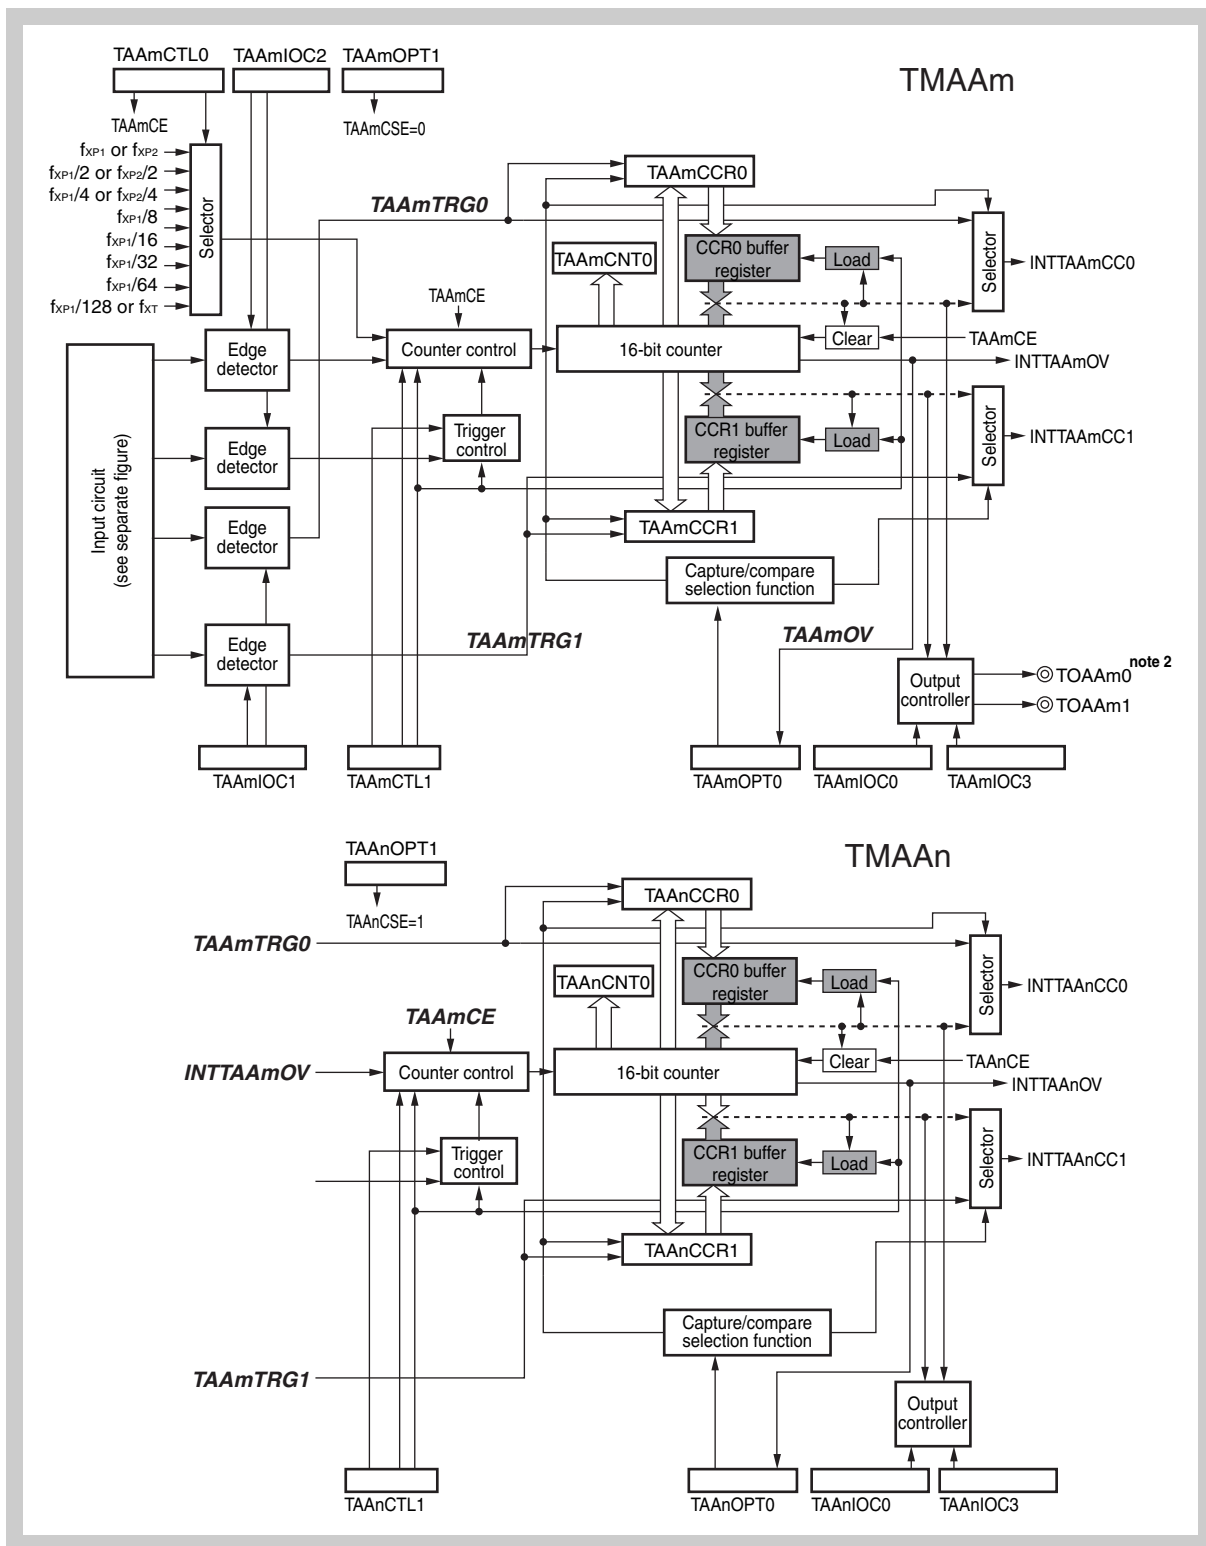

Figure 11-36 Block Diagram of TAAm and TAAn in 32-bit Capture Mode
*Figure 11-36* shows the block diagram of TAAm and TAAn in cascade mode. Signals that are irrelevant in cascade mode are not shown, the connections to the internal bus are also hidden for better readability of the image, as *Figure 11-1 on page 402* can be used for a in-depth look of each timer.